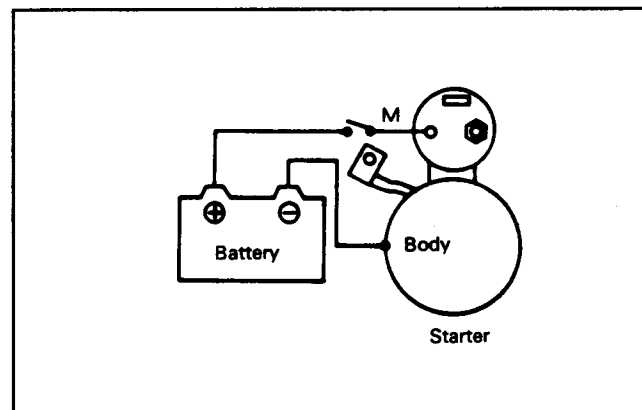

Figure 25
1. Disconnect the wire from terminal "M" (Fig. 25).